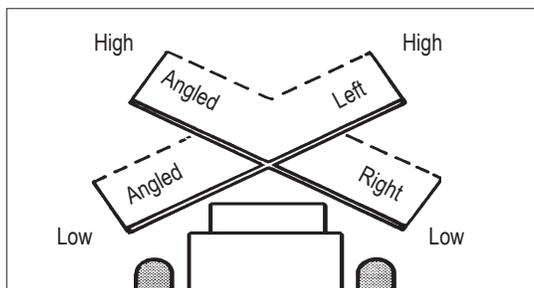

figure 1
- If the measurements resemble figure 1, tilt the brush head forward with the cylinders.